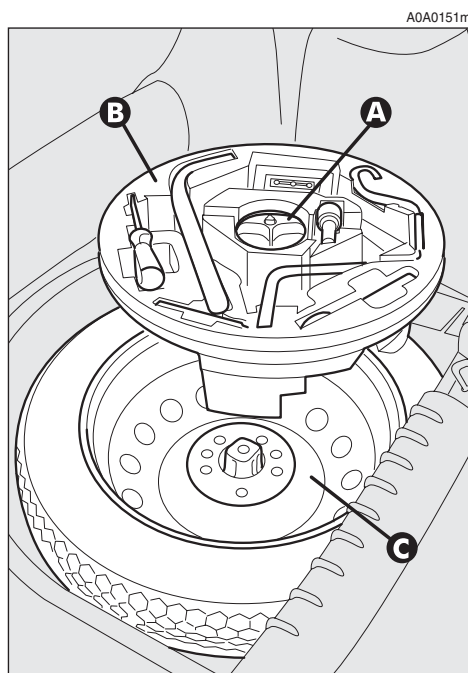

fig. 3
- Use the handle (A) to remove the piece of stiff cover (B).
- Loosen the clamping device (A-fig. 3).
- Take out the tool container (B) and take it near the wheel to be changed.
- Take the spare wheel (C).
— stow the container complete with tools on the spare wheel and secure every thing with the clamping device (**A-fig. 3**)